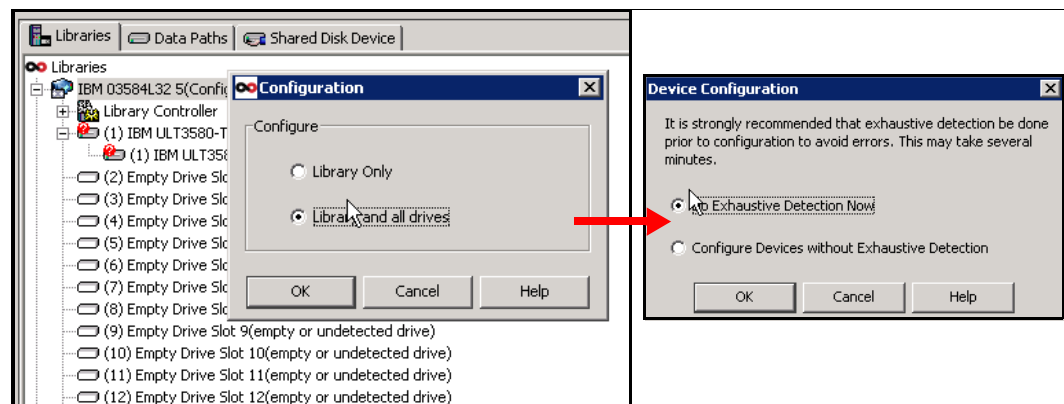

Figure 18-12 Configuration of remaining tape drives
14.After the first tape drive is correctly configured, configure the remaining tape drives by using Exhaustive Detection. Using Exhaustive Detection saves time in configuring each remaining tape drive (Figure 18-12).